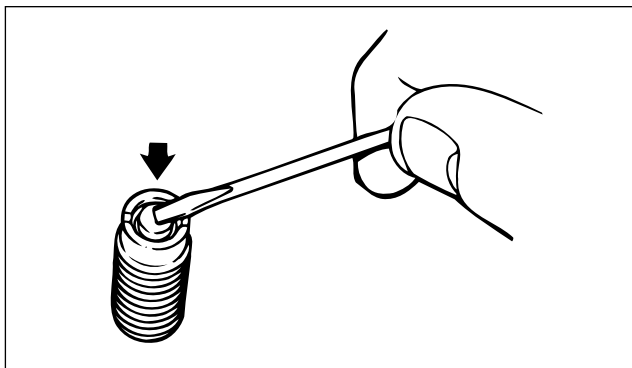

FIG. 27
3. Inspect the slave piston adjusting screw. The plunger should protrude from the bottom of the screw, have light spring pressure apparent when depressed and should move freely (see Fig. 27). Replace the entire screw assembly if any defect is found.